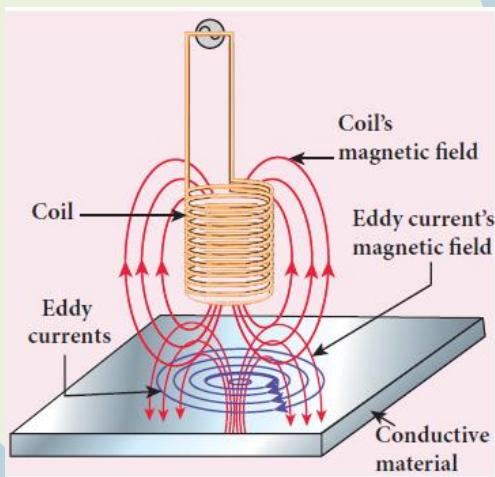

Figure 4.15 Eddy current testing
- ❖ In this way, the defects present in the specimen are identified (Figure 4.15).